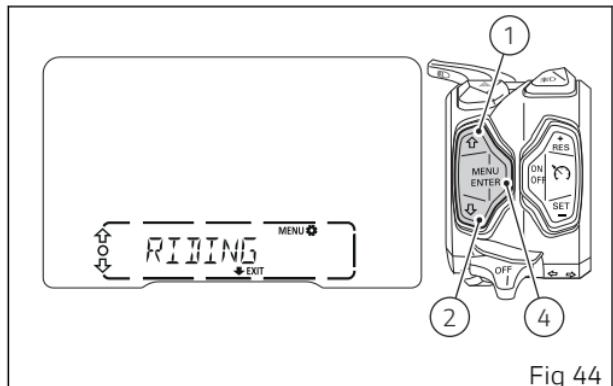

Fig 44
Select RIDING MODE option (Fig 44), by pressing button (1) or (2). Once function is displayed, press button (4).